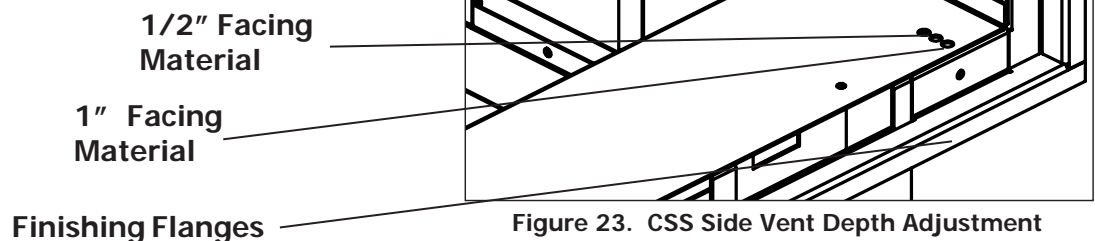

Figure 23. CSS Side Vent Depth Adjustment
**Step 14:** The desired facing/finishing material can now be installed around the side vent outlets by tucking the cut edges in behind the integrated finishing flanges of the side brackets (see figure 23, page 16).